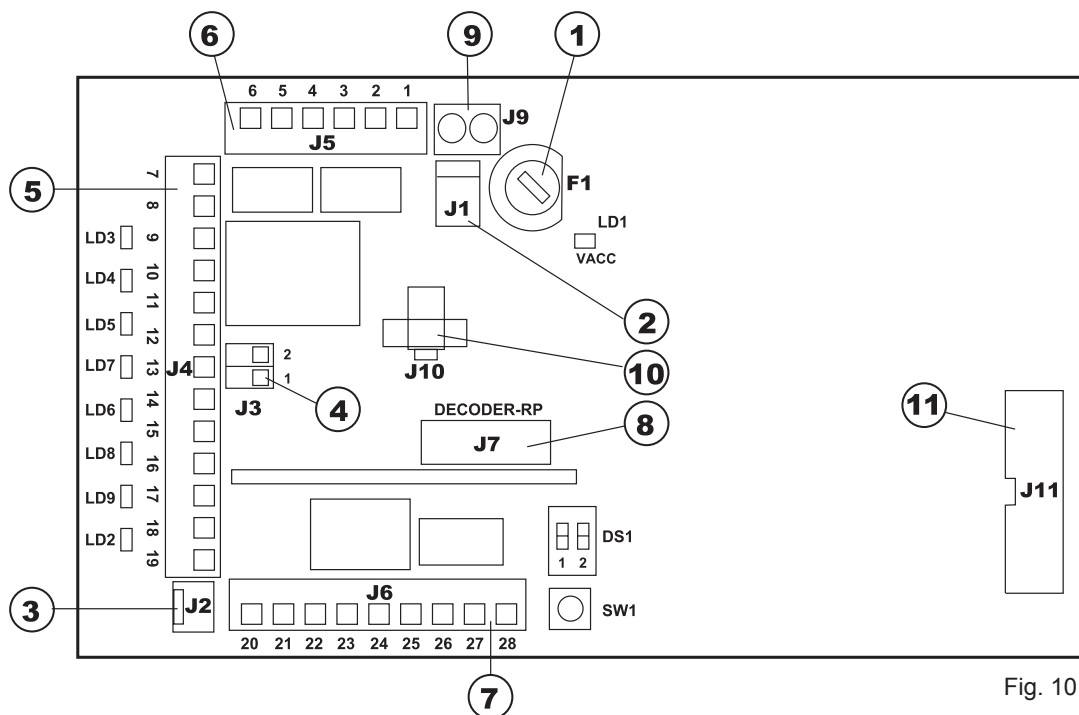

Fig. 10
**6. 950 I/O ELECTRONIC CONTROL UNIT (Fig. 10)**
- ① **FUSE F1** T4A 125 Vac. - 5x20 (UL/CSA)
- ② **J1 CONNECTOR** Transformer Secondary winding - fig. 10
- ③ **J2 CONNECTOR** Rapid Connector of Manual/Night, Open, Automatic function selector switch
- ④ **J3 CONNECTOR** KP-Controller Connection